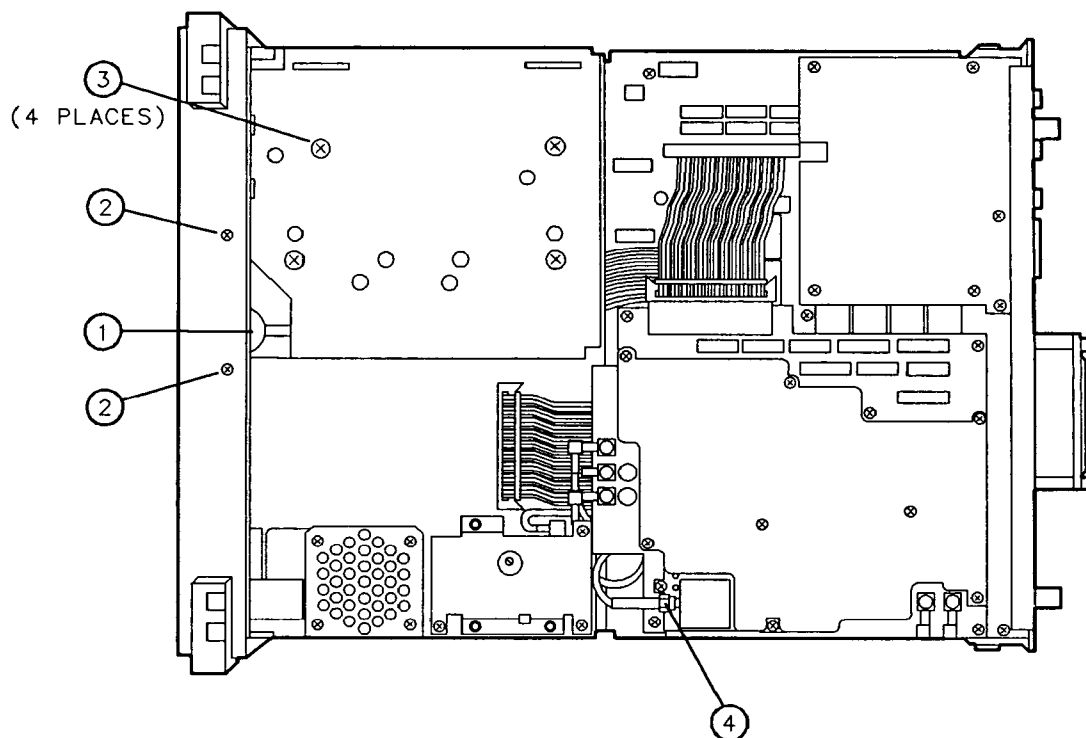

Figure 3-23. Removing the Front Frame Screws
27. Loosen the SMA connection of W10 (1) at the front panel RF INPUT 50Ω connector. See Figure 3-23. (Option 001: INPUT 75Ω connector.) Do not remove or bend the cable.
28. Remove the two screws (2) securing the bottom of the front frame to the main chassis.
31. Remove the four screws (3) securing the RF assembly to the chassis. See Figure 3-23.
32. Disconnect the COUNT LOCK LO OUT cable (4) from the A25 board assembly. Remove the RF section from the analyzer. The COUNT LOCK LO OUT cable will be pulled through a hole in the sheet metal. Disconnect the COUNT LOCK LO OUT cable from the RF section.